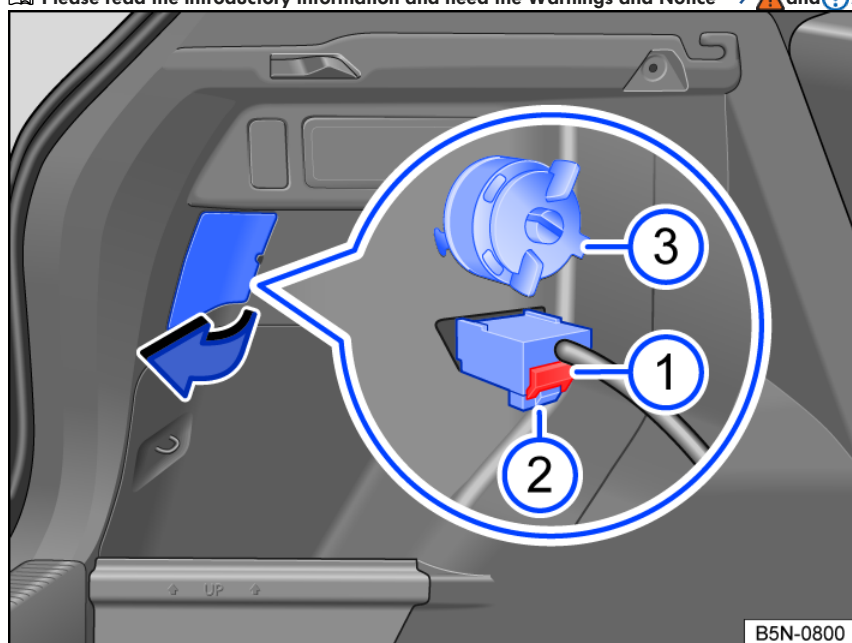

Fig. 173 Side of the luggage compartment: removing the taillight.
3. Open the section of the side trim panel in the trunk near the taillight in the direction of the arrow *fig. 173*.
4. Remove the red locking mechanism *fig. 173* **1** on the connector and remove the connector *fig. 173* **2**. If necessary, use the screwdriver from the vehicle tool kit to loosen the red locking mechanism.
5. Remove the screw counterclockwise *fig. 173* **3**.
2. Hold the taillight in the installation position with one hand and tighten the screw with the other hand *fig. 173* ③.